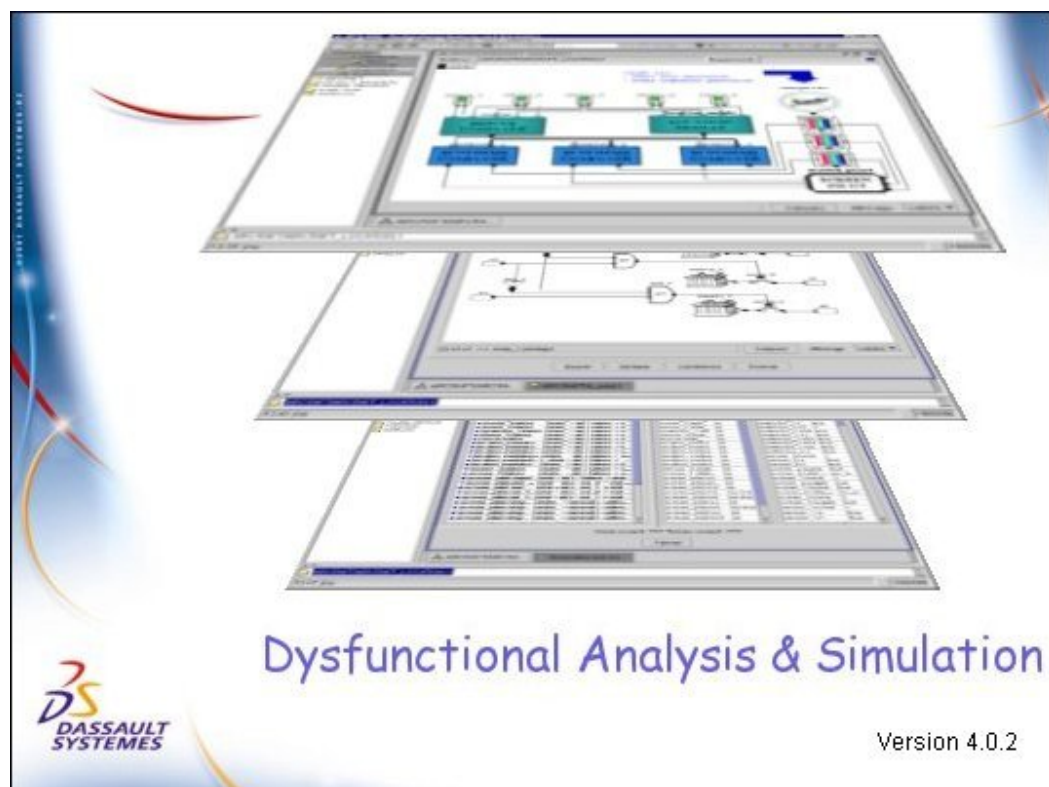

Figure 2 : DAS tool launching window
- A Window display (Figure 2).